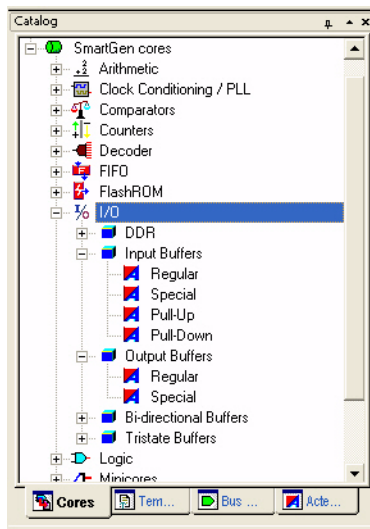

Figure 13-3 • Expanded I/O Section
3. Expand the I/O section and double-click one of the options (Figure 13-3).